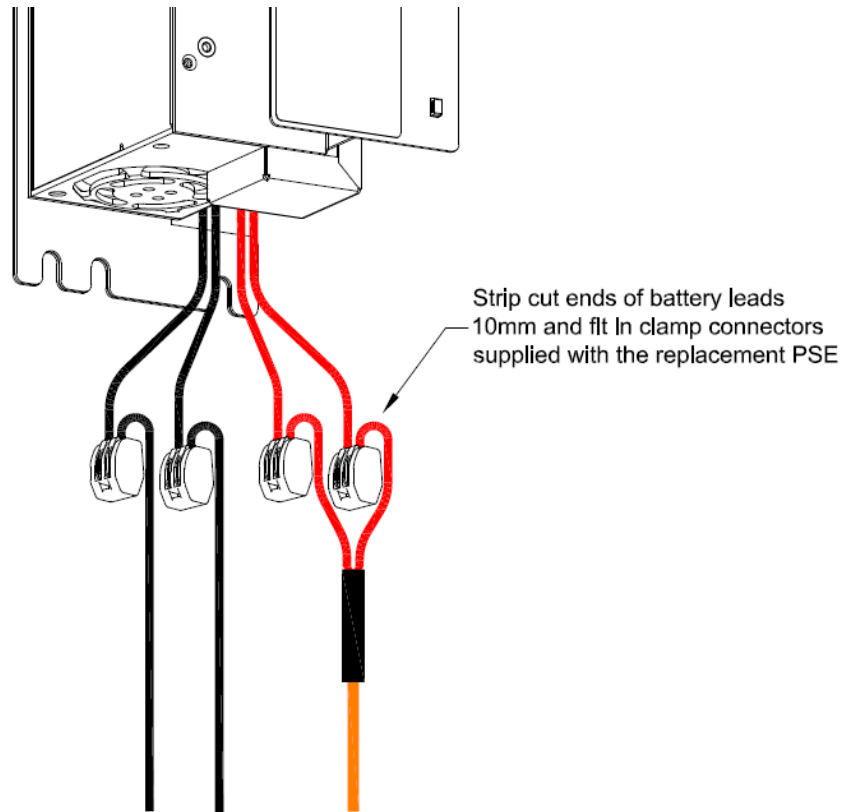

Figure 6 - Strip and Connect Battery Leads to Inline Connectors
- 17) Strip the ends of the battery looms where they were cut and insert the wires into the inline connectors as shown in Figure 6. Double check the battery leads are connected correctly – Red wires together and black wires together.